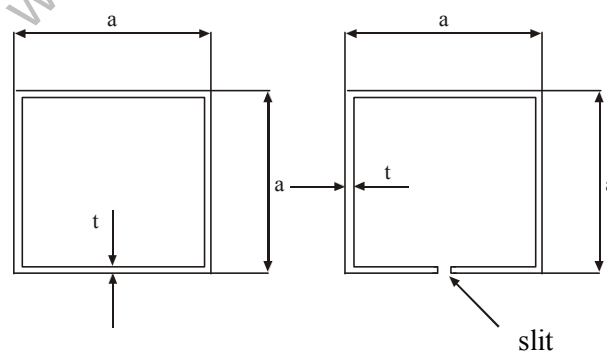

Fig. 5
9. Compare shear stress and torsional stiffness of the closed section thin square channel and the open section thin square channel with side $a=10$ cm and thickness $t=1.6$ mm as shown in Figure 5 when torsional moment $M_t = 10$ KN-m is applied. Where shear modulus of the channel, $G=80$ GPa.